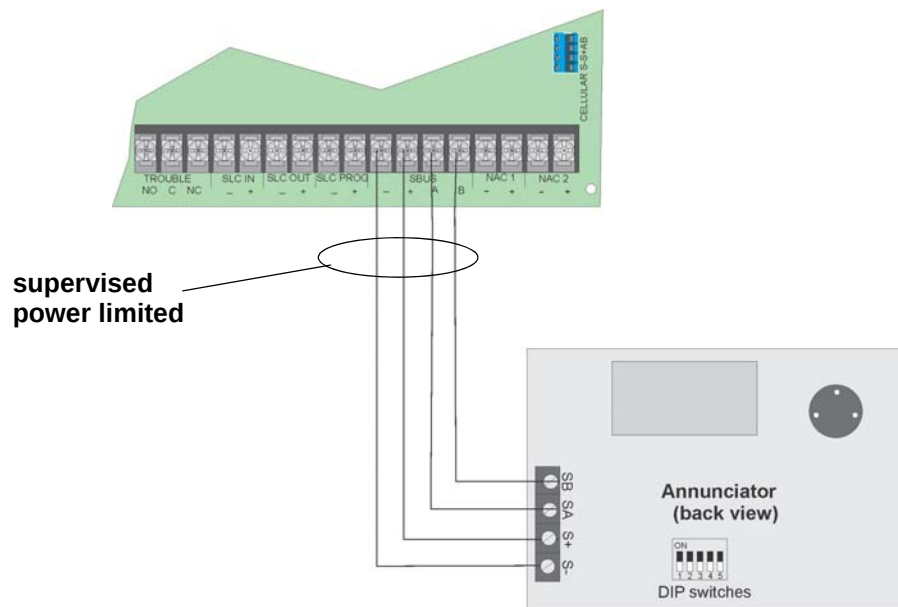

**Figure 4.18** Installing Trim Ring
4. Place the trim ring over the back box as shown in Figure 4.18.